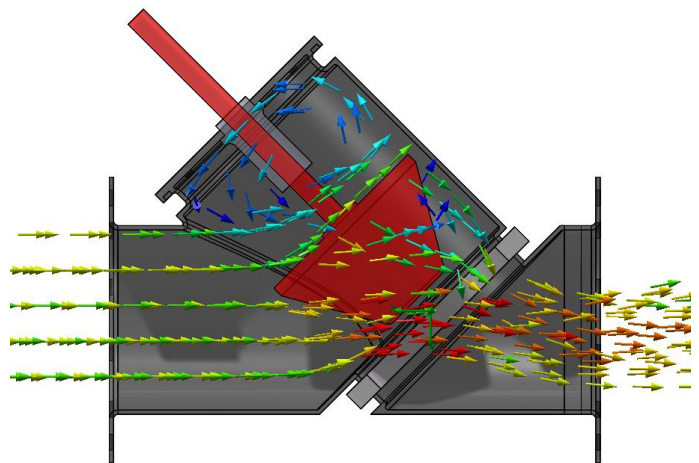

Figure 2: yDart showing flow direction from left to right
2. The yDart valve is to be installed in the "flow over" orientation. See Figure 2 (right) where the flow is from left to right.